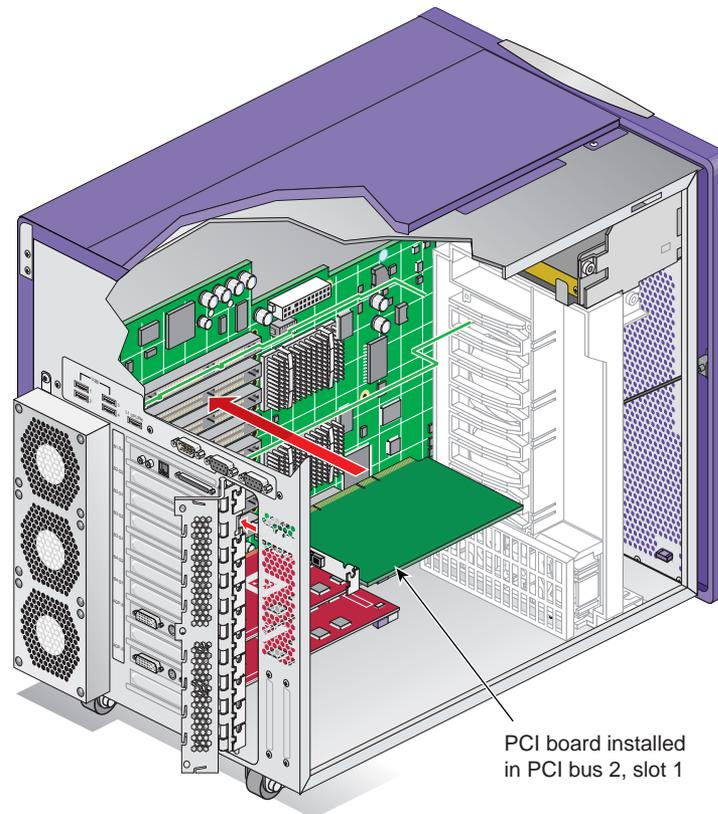

Figure 3-24 Installing the PCI Board
3. Align the PCI board with the PCI slot. Then lower it into the enclosure with the connector end angled slightly downward (see Figure 3-24).
4. Align the connector end of the PCI board in the opening in the enclosure. Ensure that the screw hole in the PCI connector plate aligns with the tab on the PCI gate. Then press down firmly on the PCI board until it is fully seated in the PCI slot (see Figure 3-24).